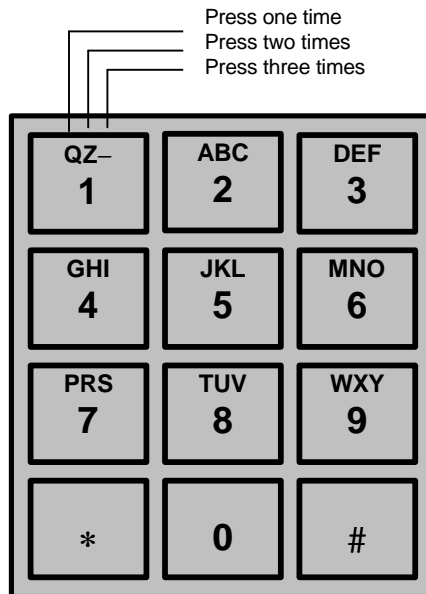

Figure 3.1 Keypad Layout
Step 3 Enter 16-character message into the first segment. You can overwrite the existing message or press "*" to clear it and reenter a 16 characters message. Used keypad correlation on figure 3.1 and 3.2. Press ## to go to the second segment and the display will show (second segment):